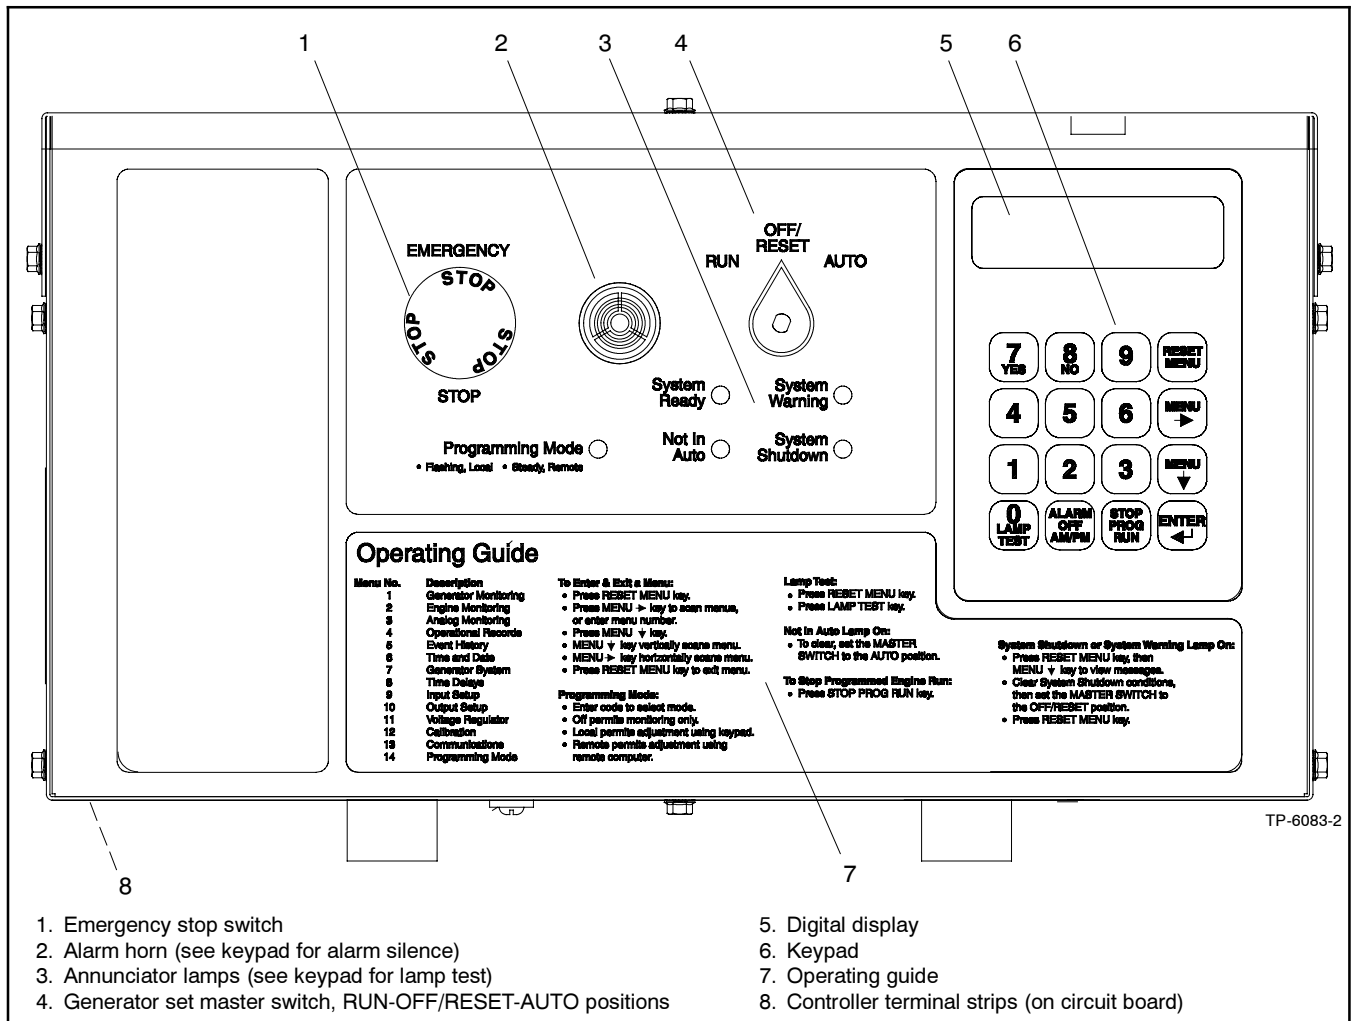

Figure 1-1 Controller Front View
The 550 controller, available on 20–3250 kW generator sets, meets the requirements of NFPA 99 and NFPA 110. The controller contains microprocessor-based logic and communicates with a personal computer (PC) individually or on a network when equipped with optional communication software products. The controller provides complete compatibility with select engine electronic control module (ECM) and non-ECM equipped generator set engines. Refer to Section 2.2, ECM Engines and Controller Displays, for identification of compatible ECM engines. All other engines, even if ECM equipped, are not compatible and considered non-ECM engines. The controller is compatible with 12- or 24-volt engine battery systems. See Figure 1-1.